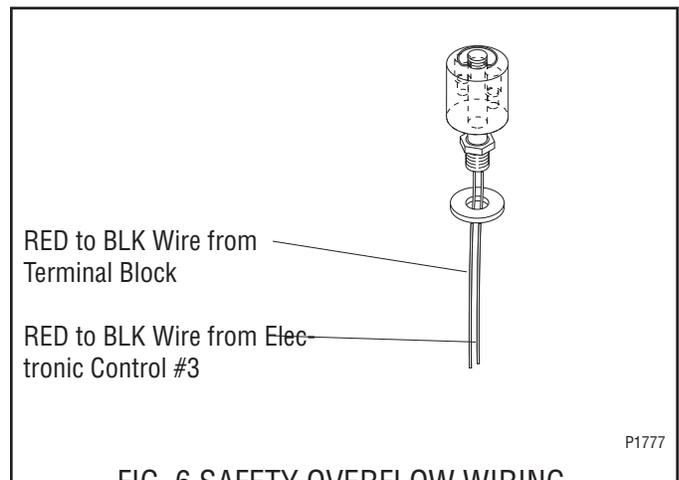

FIG. 6 SAFETY OVERFLOW WIRING
6. Reconnect the wires, FIG. 6.